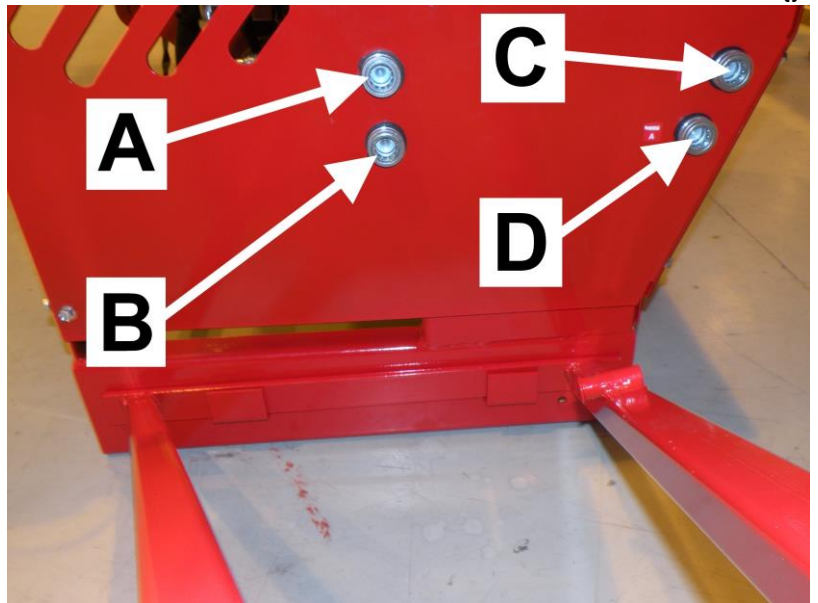
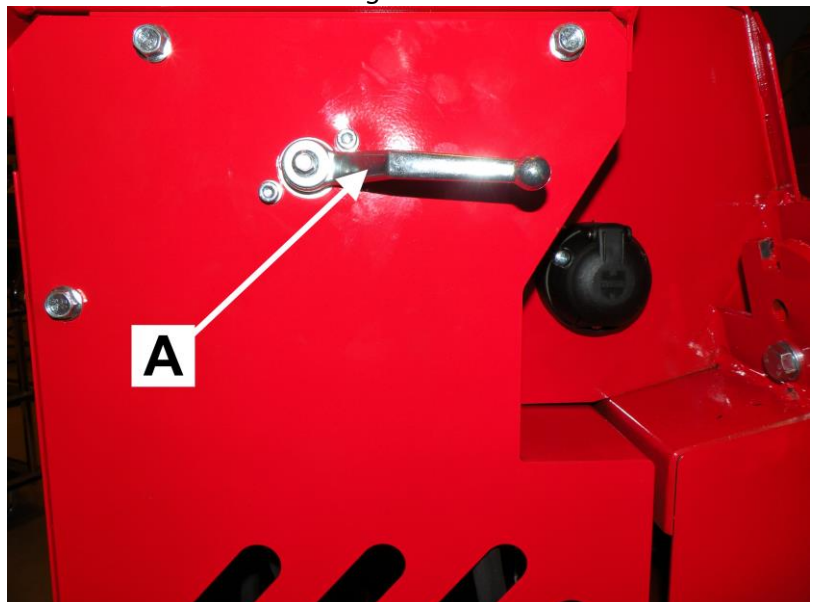

Figure 20.
Figure 21.
Connect the additional hydraulics (for example when using the WoodLift 381 log hoist) by pushing the hydraulic hoses of the auxiliary device to quick couplings C and D (please see Figure 20 in Section 4.3.4).
1. Connect the hoses of the auxiliary rollers to quick couplings A and B in the Figure 20.
3. Turn off the cock A in Figure 21 with the handle B, which allows oil to flow to the quick couplings shown in Figure 20.
**Note! Cock A must be open (as in Figure 21) whenever the quick couplings A and B in Figure 20 are not in use!**